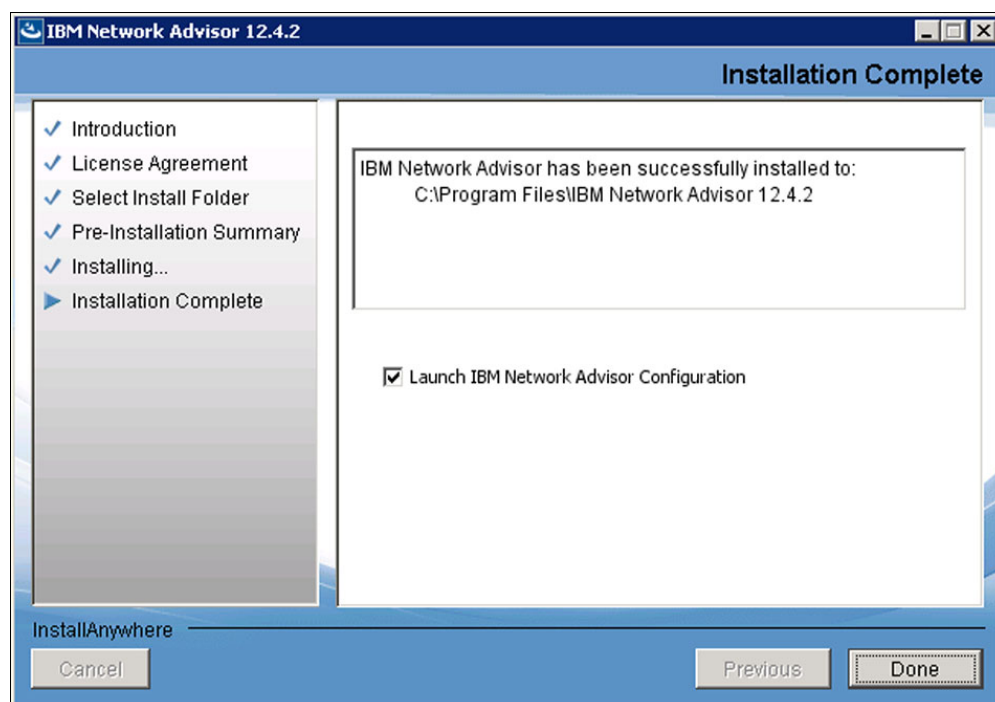

Figure 4-7 Installation Complete window
6. After the completion of the installation, as shown in Figure 4-7, the Installation Complete window opens. Ensure that the **Launch IBM Network Advisor Configuration** check box is selected to proceed with the configuration (it is selected by default). Click **Done**.